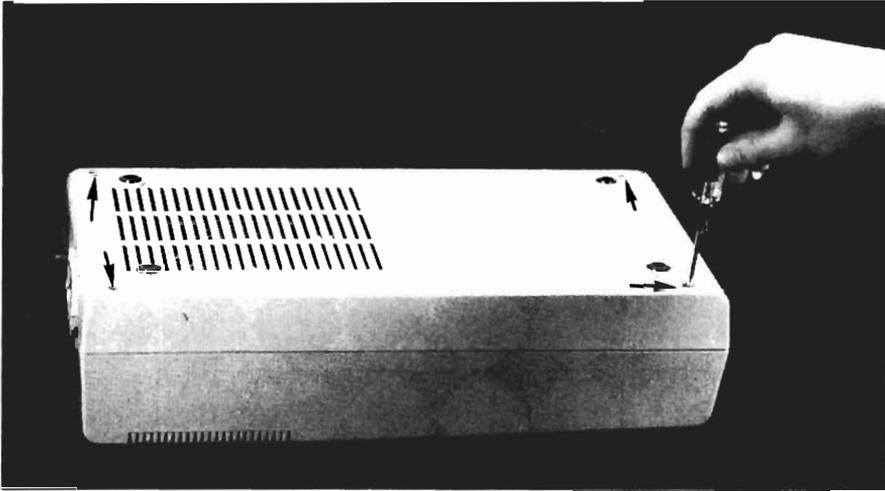

Fig. 6-12. Removing the drive screws.
4. Remove the four phillips screws from the bottom of the drive (Fig. 6-12).